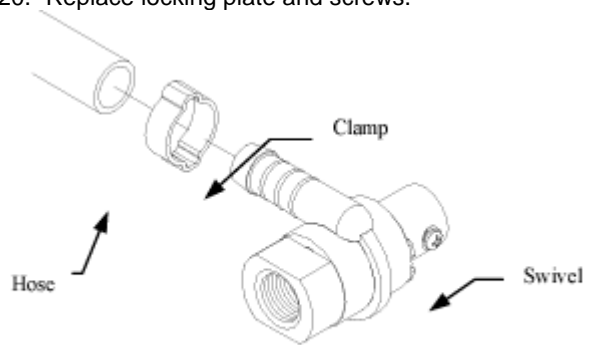

Figure 6
8. Remove hose from the swivel (Fig. 6). The hose may need to be slit along the length of the swivel. Be careful not to cut into the plastic swivel.
12. Lubricate the end of the swivel with vegetable oil or detergent solution (Fig. 6).
13. Slide clamp onto hose (Fig. 6).
14. Push new hose onto the swivel and fit new clamp onto hose (Fig. 6).